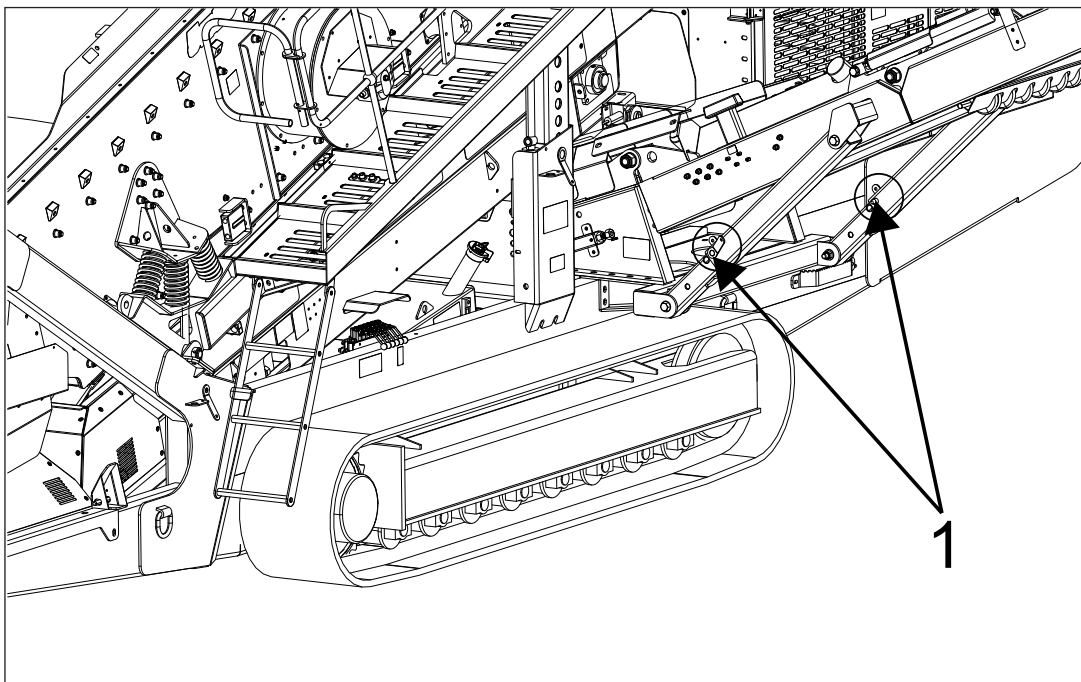

Figure 5.13 - Remove Securing Pins
2. Remove the pins securing the conveyor in place (Item 1, Reference: Figure 5.13).